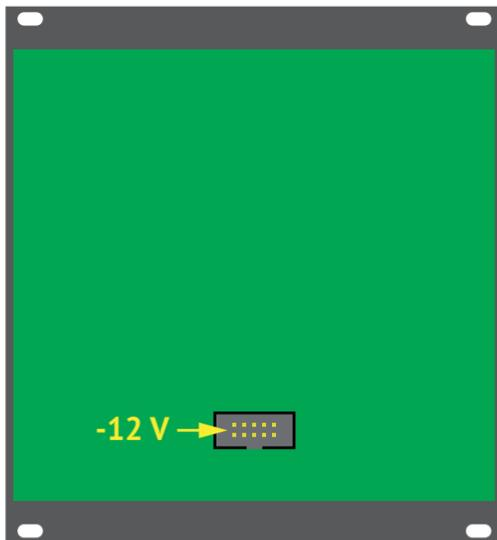

Figure 1: twinCussion rear with connector
1. **Switch off the power supply!** For safety reasons, also remove the detachable power cable from your frame before mounting the module! (See "Figure 1: twinCussion rear with connector" on page 5).